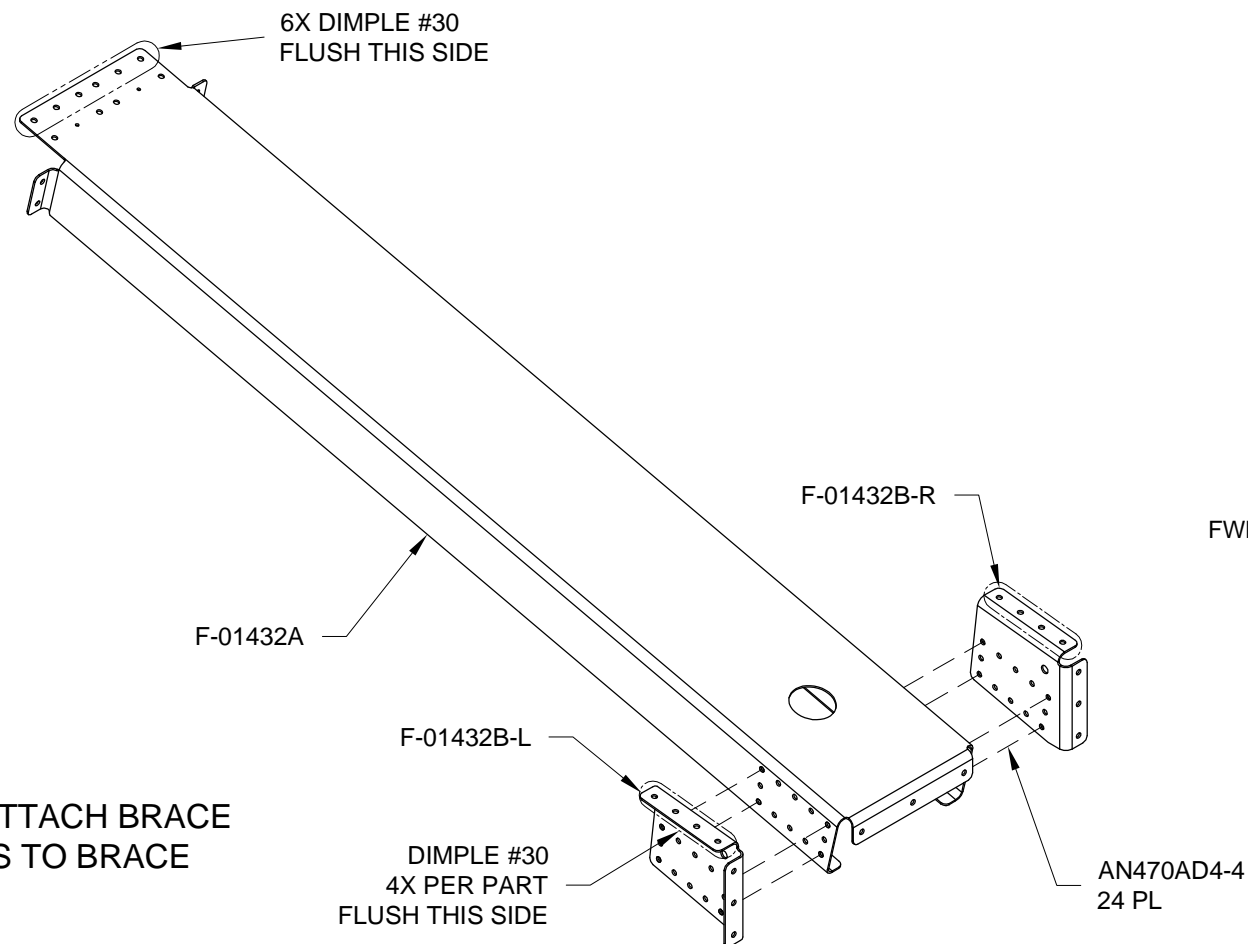

FIGURE 2: ATTACH BRACE BRACKETS TO BRACE
Step 2: Dimple the F-01432B-L & F-01432B-R Roll Bar Brace Brackets and F-01432A Roll Bar Brace where indicated in Figure 2.
Step 3: Rivet the F-01432B-L & F-01432B-R Roll Bar Brace Brackets to the F-01432A Roll Bar Brace using Figure 2 rivet call-outs.